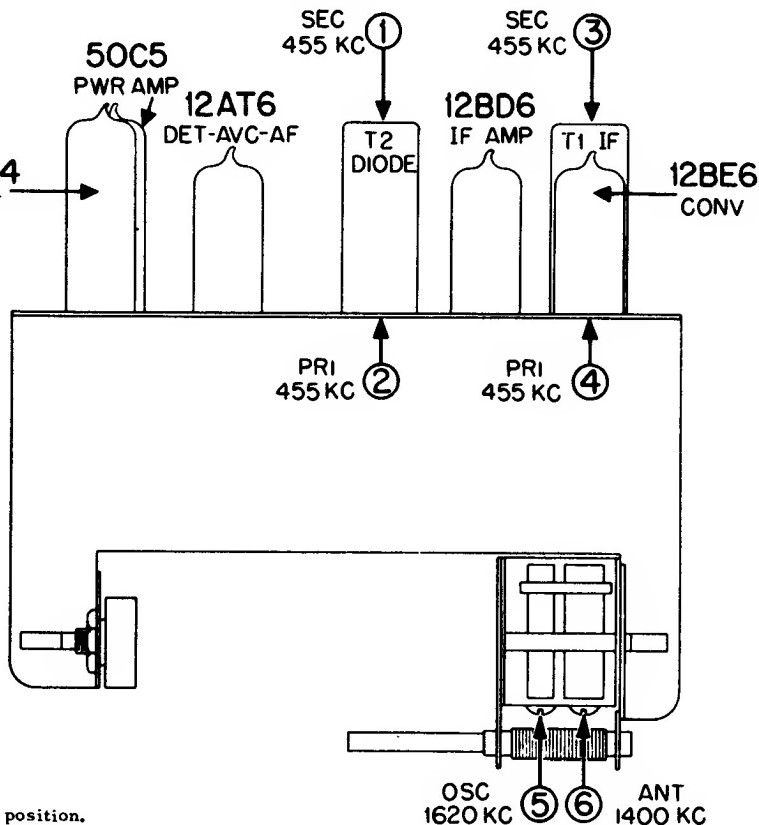

FIGURE 4. TUBE AND ALIGNMENT LOCATIONS
7. See Figure 4 for adjustment locations and the following chart for procedure.